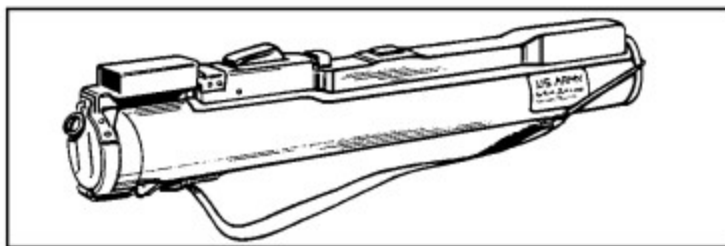

Figure 1-1. M72A2 LAW (Closed Position).
- a. **Background.** The LAW (shown in Figure 1-1) is a lightweight, self-contained antitank weapon consisting of a rocket packed in a launcher. The launcher serves as a watertight packing container for the rocket and houses a percussion-type firing mechanism to activate the rocket.